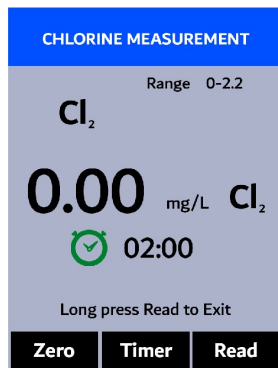

Figure 7.
3. Press **OK** to launch the **CHLORINE MEASUREMENT** screen (Figure 7).